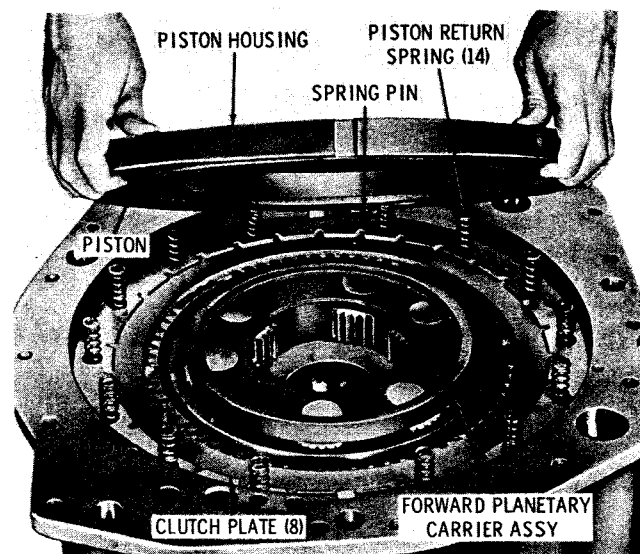

Fig. 7-29. Installing forward clutch piston housing (5631 models)
(10) Install the forward planetary carrier assembly (fig. 7-29). Install 14 piston return springs.
(11) Install the forward clutch piston, with its seal rings and expanders, narrow flat side outward, into the forward clutch piston housing (fig. 7-29). Install the spring pin into the recess in the transmission housing.